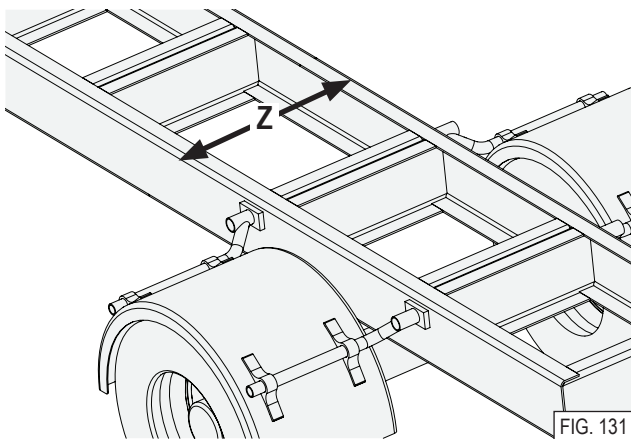

FIG. 131
- Measure the outside frame rail distance "Z", see Figure 131.